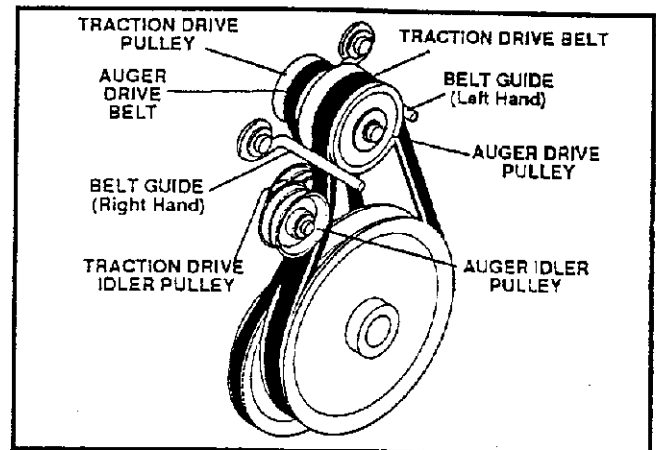

FIG. 8-SERV & ADJ
- Loosen the belt guides (See FIG. 8-SERV & ADJ) and pull away from the engine drive pulley.
- Loosen the nut on the idler pulley (See FIG. 8-SERV & ADJ) and pull idler pulley away from the belt.
TRACTION DRIVE BELT (See FIG. 8-SERV & ADJ)